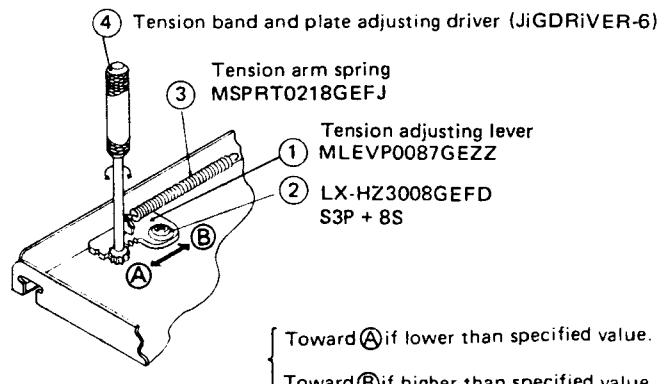

Figure 16.
1. If the reading is below 50g.cm, shift the tension adjusting lever ① in the direction of arrow → (A) in Fig. 16, and tighten the screw ②.
2. If the reading is over 58g.cm, shift the tension adjusting lever ① in the direction of arrow → (B) in Fig. 16, and tighten the screw ②.